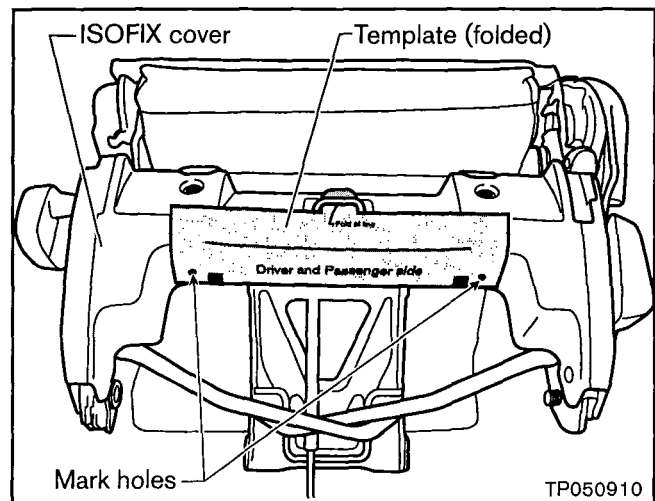

Figure 8
- c. Mark the holes on the ISOFIX cover (see Figure 8).